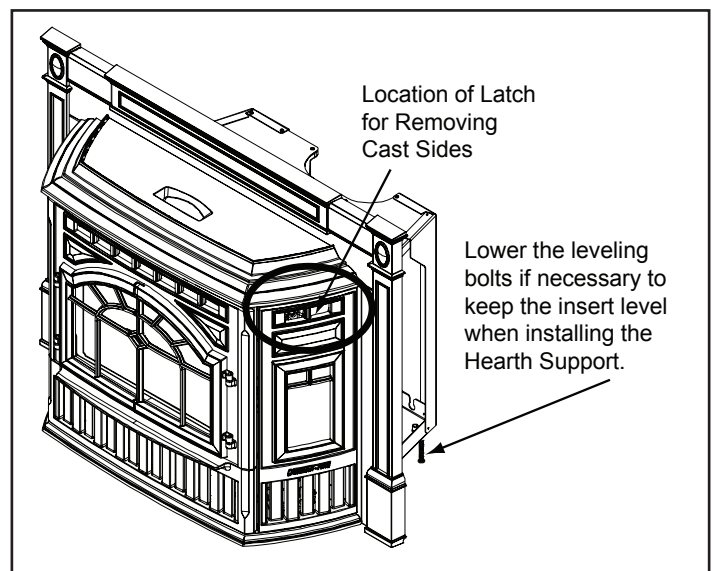

Figure 19.4 - Shown with Cast Panel Set
1. There is a latch on the back side of the cast side in the middle of the top opening of the cast side as indicated in **Figure 19.4.**